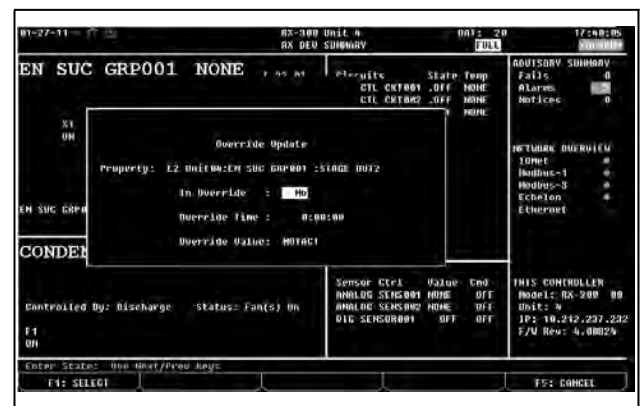

Figure 12-16 - Override Update Screen (RX Version Shown)
- The Override Update screen appears (see Figure 12-16). Press the **Prev** or **Next** to enter **Yes** to place the stage in override. Scroll down one space to enter the **Override Time**.